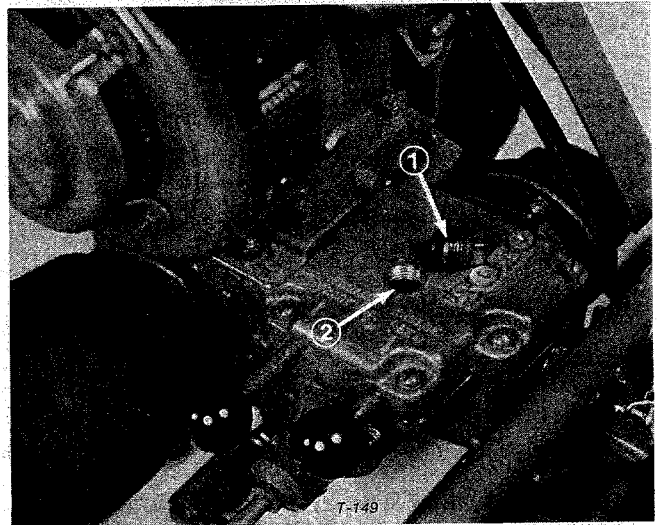

Figure 35
B. If level is correct, replace plug. If level is too low, remove plug in top of transmission and add a good grade of SAE 90 gear oil (Fig. 35). Replace both plugs.